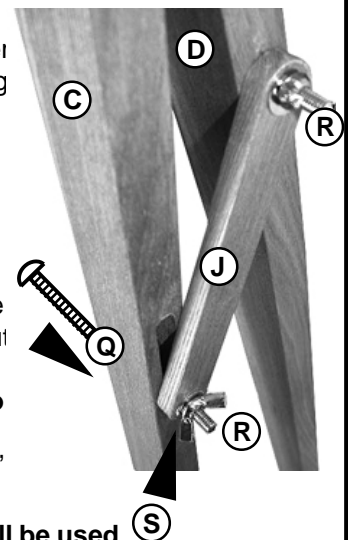

**FIG 5**
**STEP 5.** Attach Rear Spike Leg [C] to Metal/Wood Ratchet Column [D] by lining up notch and joiner, continue by inserting a 2-1/8" bolt [P] through all holes and secure with Washer [S] and Wing Nut [R]. See FIG 5 below.